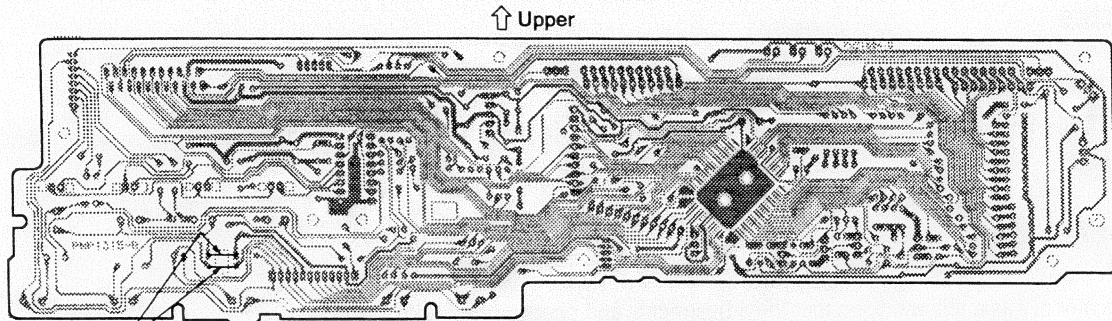

Fig.1 FUNCTION board assy (This diagram is viewed from the foil side.)
2. Short the test mode jumper wires. (See Fig. 1.)